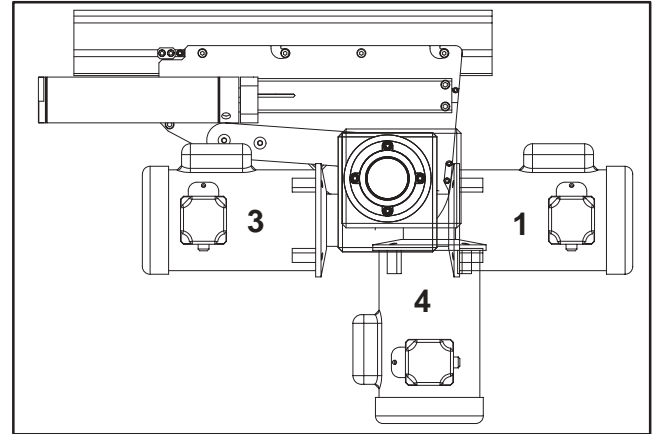

**Figure 24**
1. Locate components of (Figure 24).